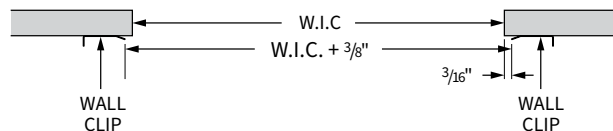
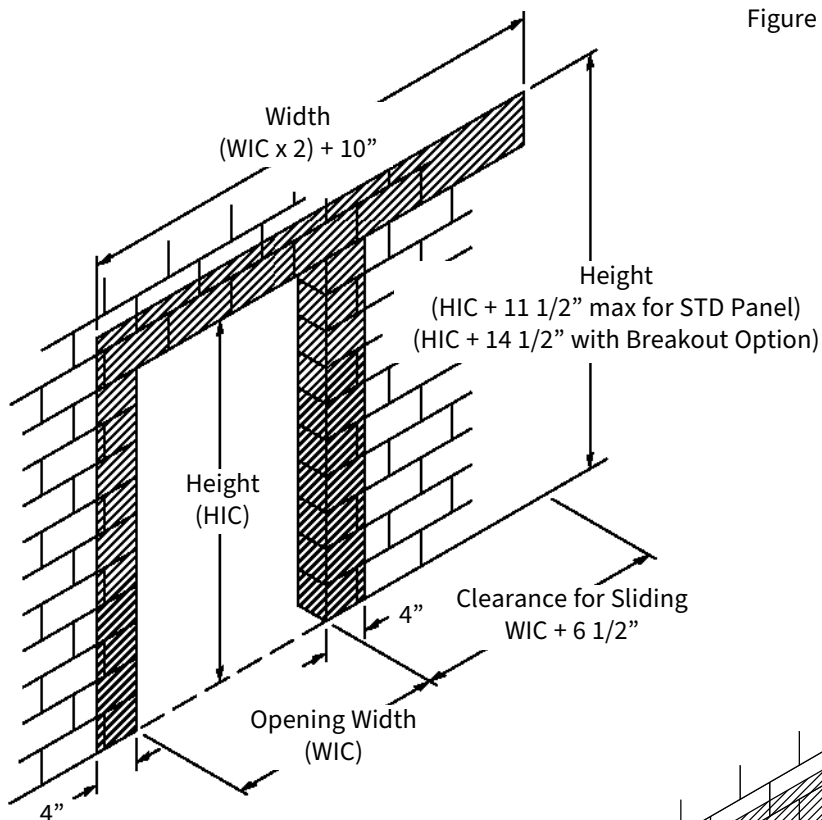

Figure 2: Wall Clip Position
Figure 3: Door Measurements
1. Measure door opening to verify door dimensions (Figure 3). Based upon dimensions in figure 3, determine that door will have sufficient wall space to open. Locate side frames relative to the sides of the opening as shown in figure 2.
1. Attach the wall clips to the wall flush with the edge of the opening, leaving the bottom 2 bolt holes open for the floor hardware (Page 7, figure 2).